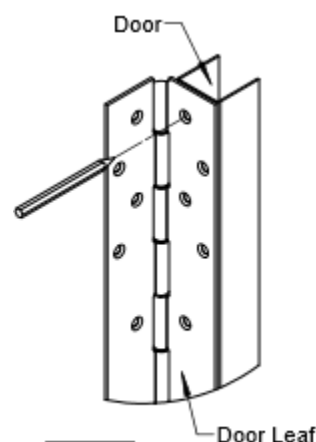

Fig. 2
2. Mark and center punch each hole on the door with the hinge held firmly in place (Fig.2). Remove the hinge from the door and prepare to drill the door.